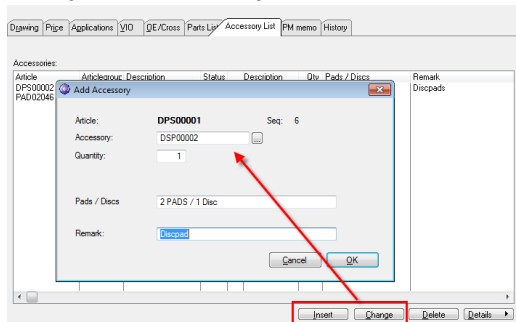

Figure 8: Insert/Change
- When inserting or changing an article in the Accessory List, a pop-up-screen **Change** or **Add Accessory** opens. Also see *Figure 8: Insert/Change*.